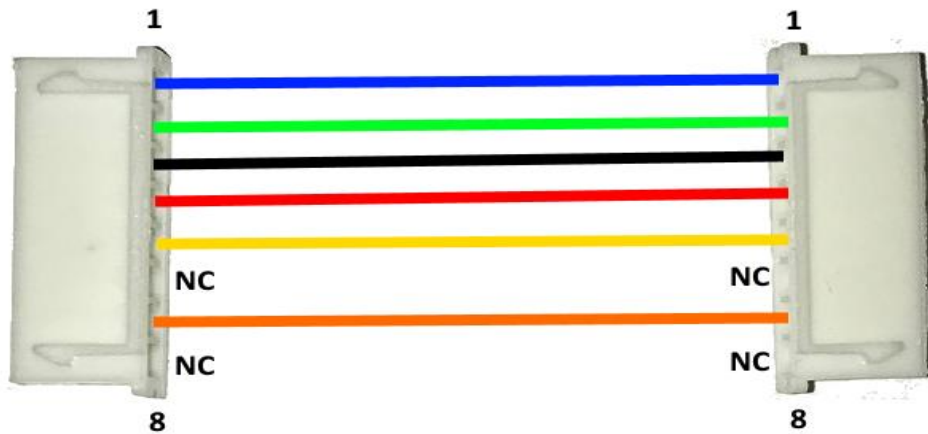

Figure 3 8-pin female to female JST wiring
9. The 8 pin female to female JST connector should connect straight from SD DDP PCB to the ADAM DDP pins (J11 for DDP drive 1 or J13 for DDP drive 2) as illustrated in Figure 3.